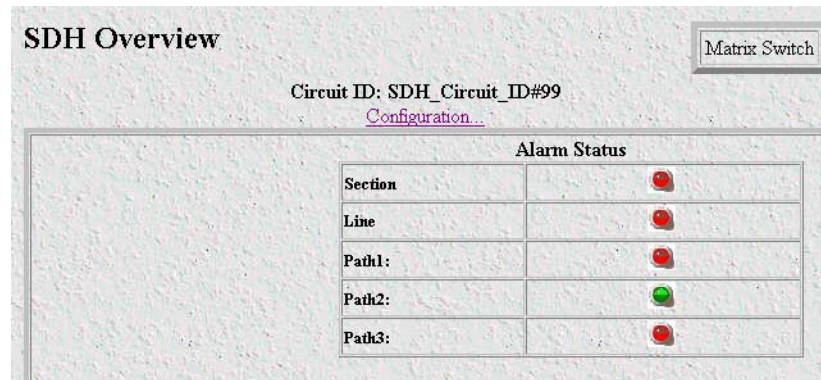

Figure 44. SDH Overview page
1. On the *6511RC Configuration Menu* (see figure 27 on page 48), click the *SDH* hyperlink to open the *SDH overview* page (see figure 44).